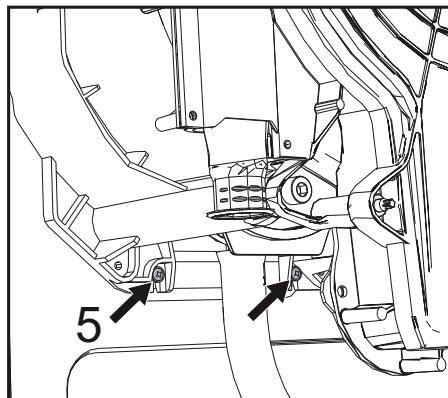

fig. 50
- Loosen the 2 **bottom** screws "5" securing the exchanger to the frame (fig. 50)